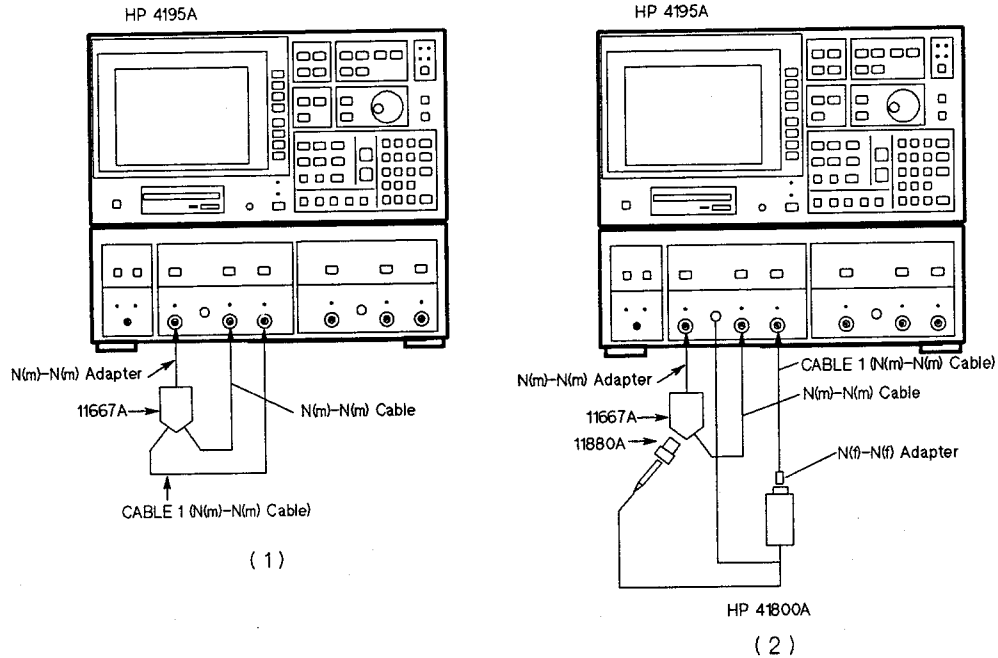

Figure 4-1. Probe Gain/Frequency Response Test Setup
1. Connect the power splitter to the HP 4195A as shown in Figure 4-1 (1).
6. Disconnect CABLE 1 (see Figure 4-1 (1)) from the power splitter, and connect the HP 41800A between the power splitter and CABLE 1 as shown in Figure 4-1 (2).